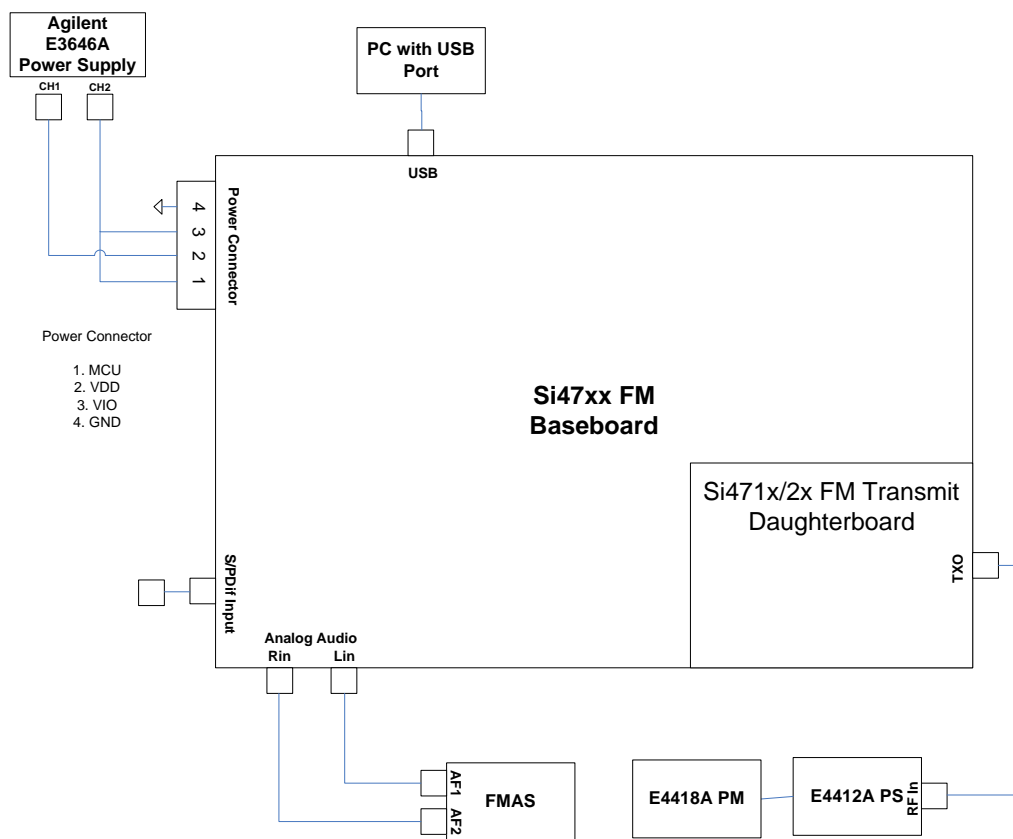

Figure 12. Si471x/2x Transmitter Power Meter Setup
1. Connect test equipment as shown in Figure 12.